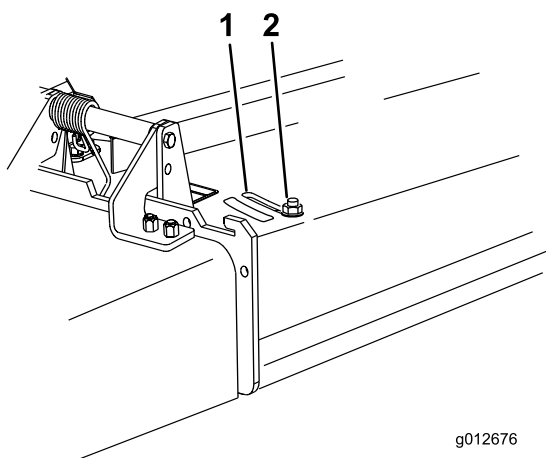

Figure 23
3. To adjust the baffle, loosen the nut (Figure 23).